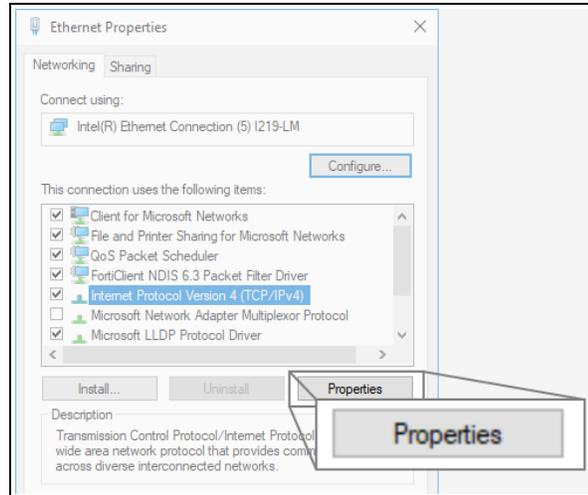

Figure 66: Ethernet Properties dialog box
7. Select the **Internet Protocol Version 4 (TCP/IPv4)** option. Figure 66